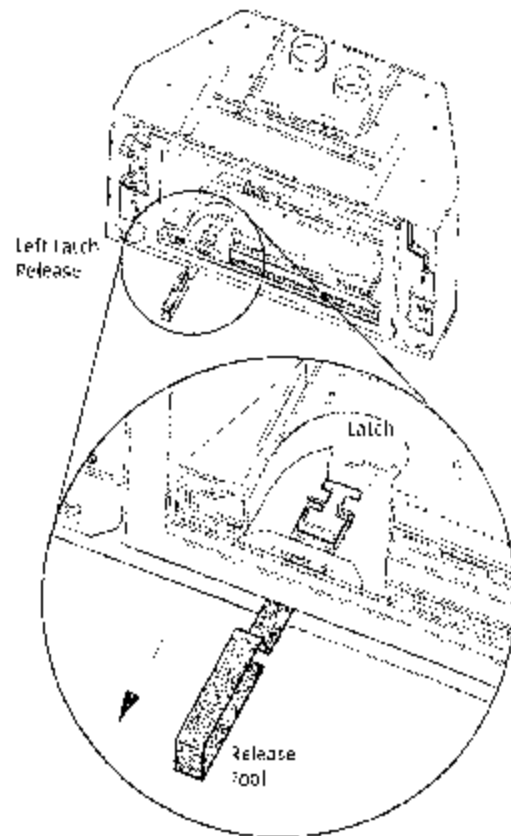

Figure 7. Pull each Spring Latch out and down to disengage it from the Glass Frame.
- See the cut-away view in fig. 7 below to locate the right and left spring latches on the underside of the firebox floor. Release each latch by engaging the tangs of the tool with the latch throat, pulling it forward and down.